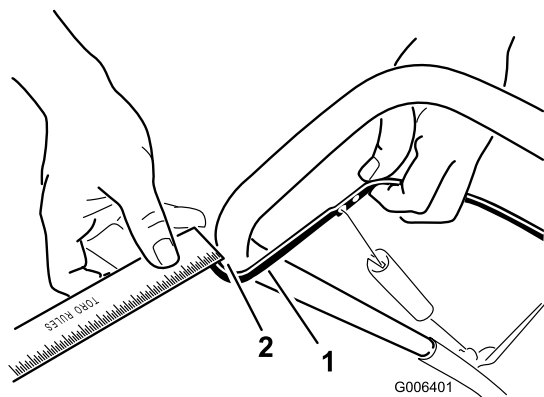

Figure 25
Move the control bar back toward the handle to remove the slack in the control cable (Figure 25).
Note: Ensure that a 2 mm to 3 mm (1/16-inch to 1/8-inch) gap exists between the control bar and the handle (Figure 25).
2. Move the Z-fitting to a higher or lower hole on the adjuster link as needed to obtain the 1/16-inch to 1/8-inch (2 mm to 3 mm) gap between the control bar and the handle (Figure 25).